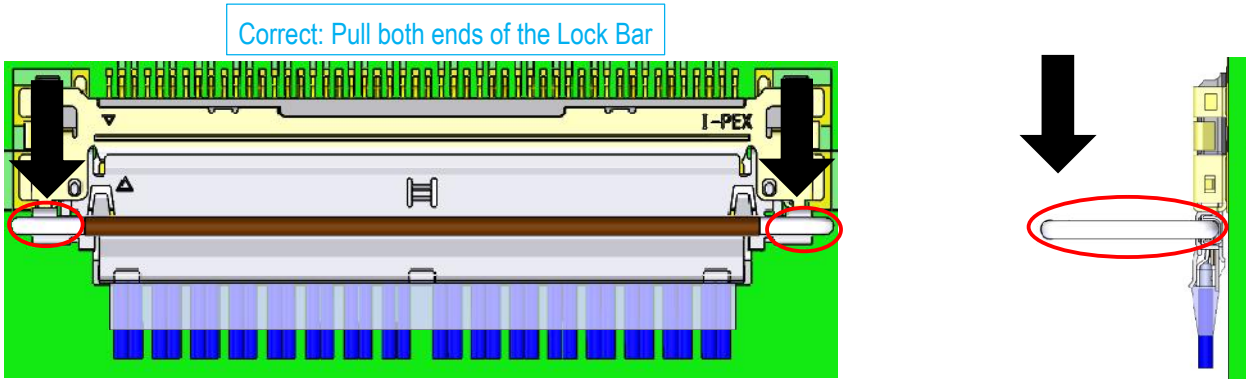

Fig. 12
2. Hold both ends of the lock bar, then pull them horizontally and parallel as shown in Fig. 12.